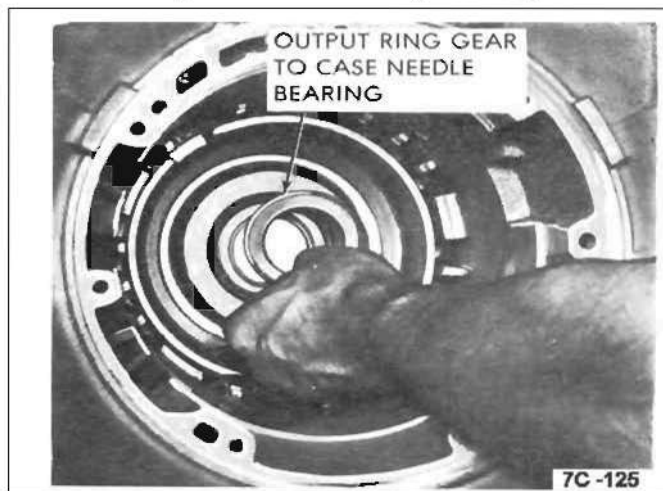

Figure 82 Needle Bearing Assembly
3. Install output ring gear to case needle bearing assembly. *See Figure 82.* Lip on inner race of bearing **MUST** point toward rear of transmission.